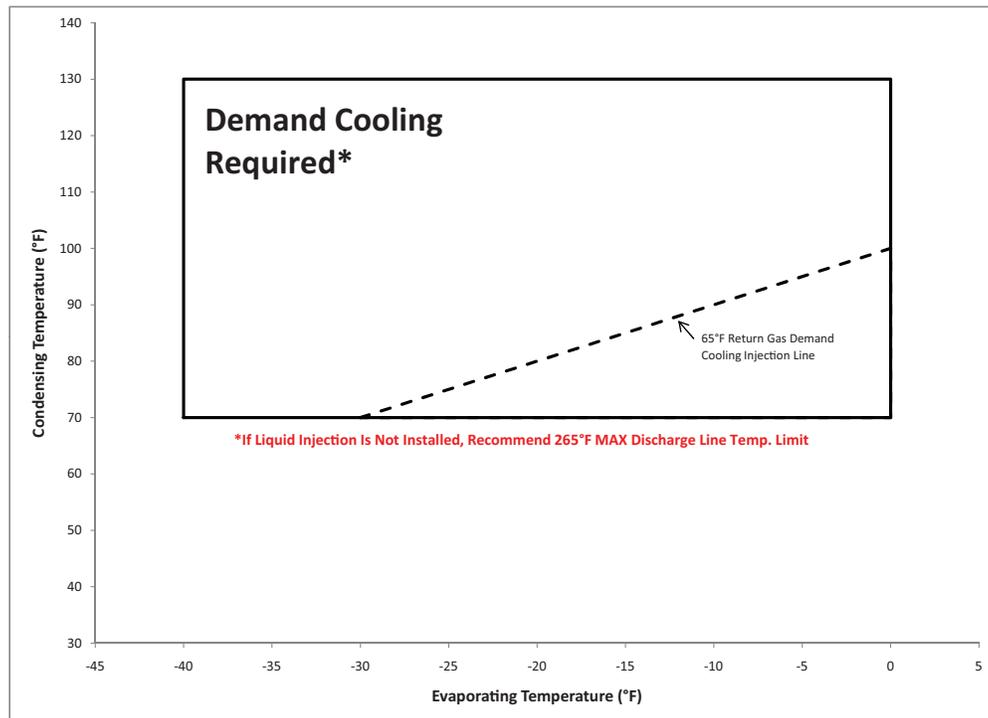

**Figure 1 – Demand Cooling System**
The Demand Cooling™ system (see **Figure 1** at the end of this bulletin) uses modern electronics to provide a reliable cost effective solution to this problem. It is required for all single stage HCFC-22, HFC-407A, HFC-407C and HFC-407F applications with saturated suction temperatures below -10°F.
The Demand Cooling System (see **Figure 1**) consists of: The Demand Cooling Temperature Sensor (TS), The Demand Cooling Module (CM), and the Injection Valve (IV).